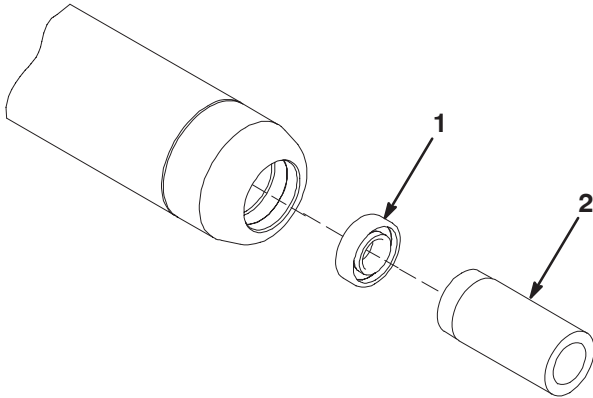

Figure 4
7. Using the Bearing/Outer Seal Tool, install a bearing into one end of the roller tube. Slightly tap on the outer race of the bearing until the bearing is seated (Fig. 4 & 5).